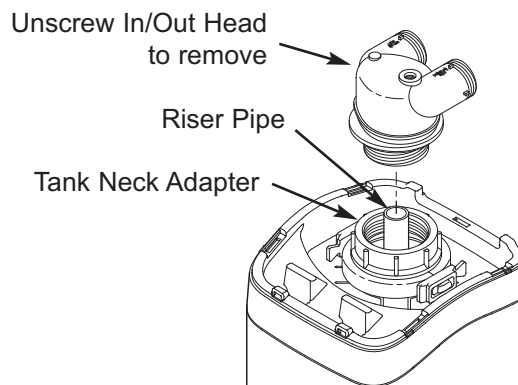

FIG. 10
4. Holding the tank neck adapter with a strap wrench, unscrew the in/out head from the tank neck adapter (See Fig. 10). Once the in/out head is completely unscrewed, check to see whether the riser pipe (See Fig. 10) is still inserted in the in/out head. Remove it by lifting the in/out head enough to grasp the riser pipe and pull it free from the head.
NOTE: The riser pipe (See Fig. 10) may have been pulled up from the bottom of the mineral tank. If this has happened, the in/out head may not engage the threads of the neck adapter. To correct this, apply air or water pressure to the riser pipe. This will move the media at the bottom of the tank, allowing the riser pipe to be lowered to the bottom of the mineral tank.